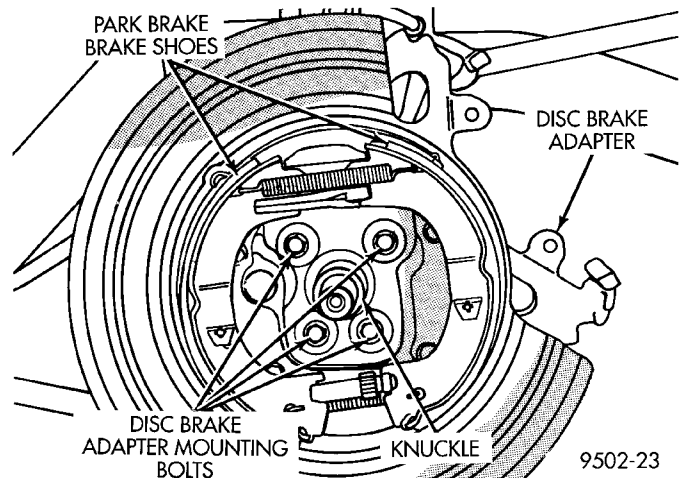

Fig. 16 Disc Brake Adapter Mounting
(8) On vehicles equipped with rear disc brakes, remove the 4 bolts attaching disc brake adapter to rear knuckle (Fig. 16). Then remove the adapter, rotor shield, park brake shoes and park brake cable as an assembly from knuckle.
(7) On vehicles equipped with rear disc brakes, install the disc brake adapter on knuckle (Fig. 16). Install the 4 bolts attaching the disc brake adapter to knuckle (Fig. 16). Torque attaching bolts to 68 N·m (50 ft. lbs.).